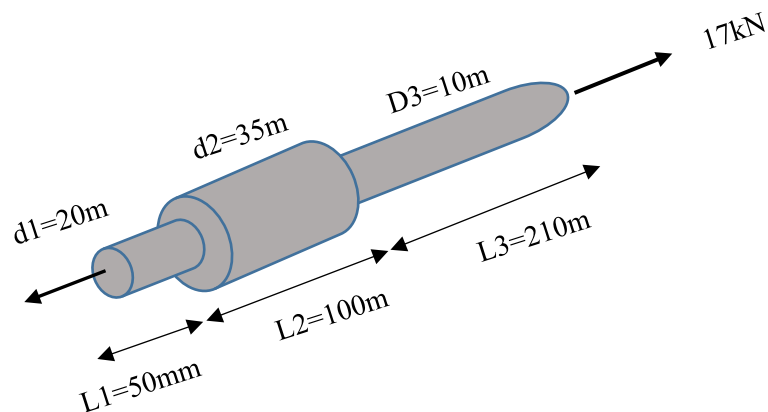

Figure A2 / Rajah A2
- (c) A copper bar as shown in **Figure A2** has been imposed to 17kN tensile load. If the modulus of elasticity of copper is 150MPa, calculate stress in each part of the bar.